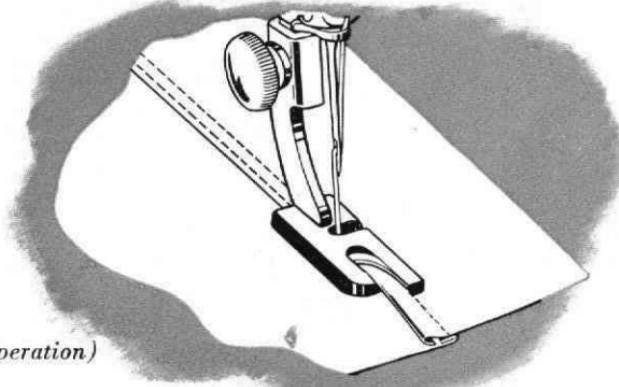

Fig. 41. Making a Felled Seam (Second Operation)
2. Open work out flat, wrong side up, and hem free edge of seam, stitching it flat to garment as shown in **Fig. 41.**